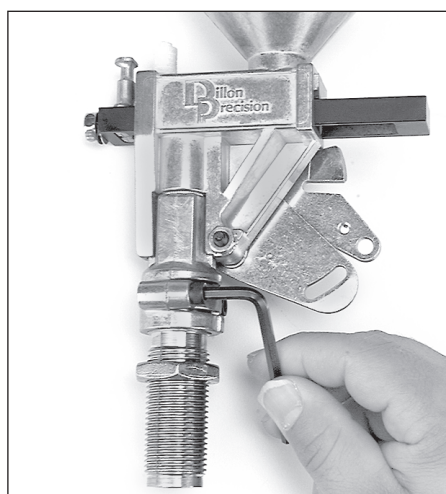

FIG 86
1. Using a 5/32" Allen wrench, loosen the two collar clamp screws and remove the powder die **FIG 86 & 87**.